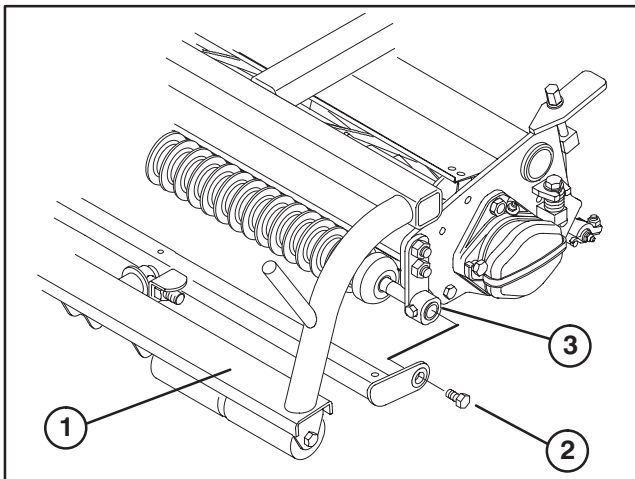

Figure 2
5. Insert new roller into roller brackets (Fig. 2).